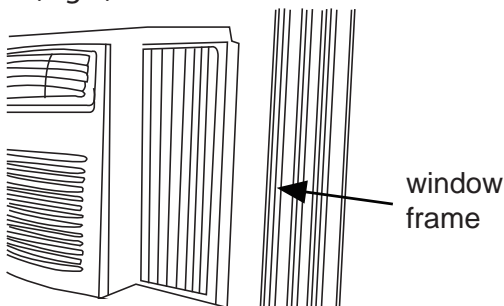

Fig.6
B. Extend the side panels out against the window frame (Fig.6).